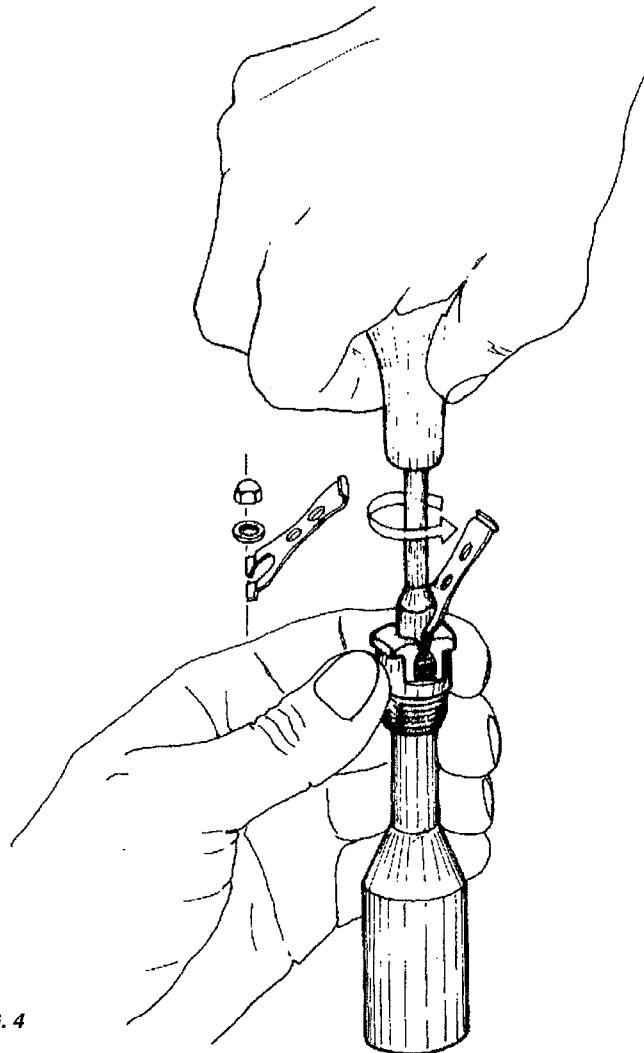

FIG. 4
8. Insert washer (34) over the stem of the poppet assembly and tighten the regulating nut (33) using the special tool (B-12 or B-20). (Fig. 4)